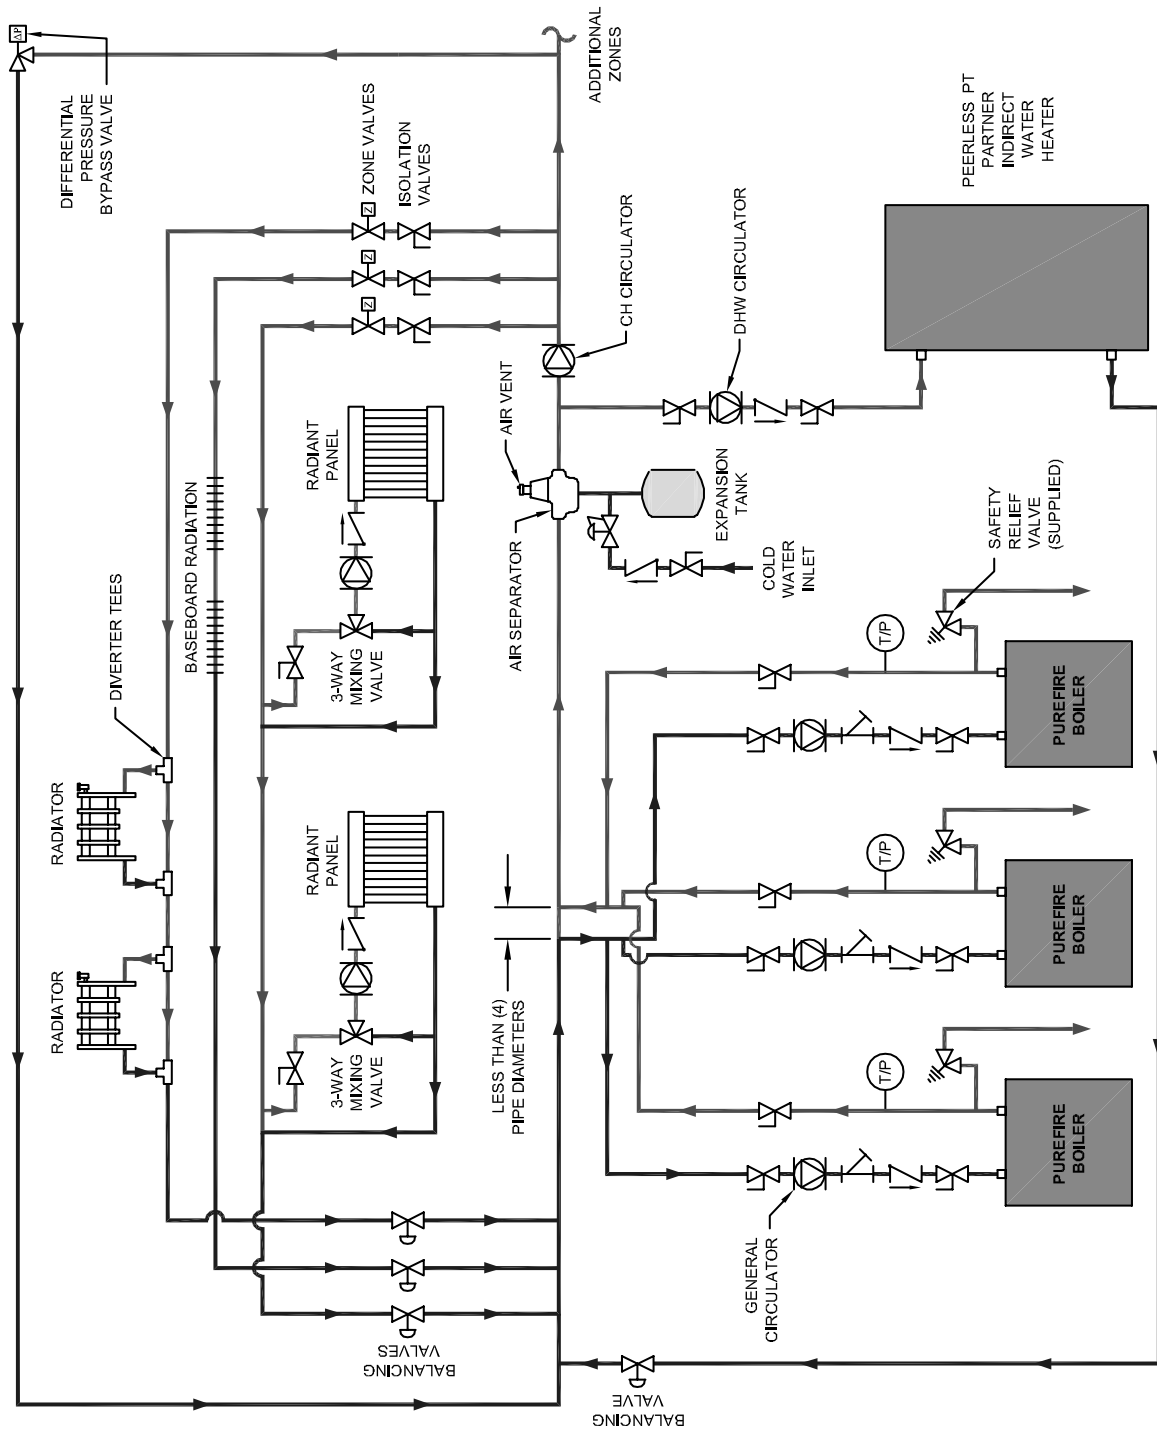

Figure 4.8: Three Boilers, Primary/Secondary with Four Zones (Zone Valves)
5. In Figure 4.8 zone valves are used instead of zone circulators. Notice that the system is piped using reverse return piping to help balance the flow through the zones. If the zone lengths vary balancing valves are required on each loop.